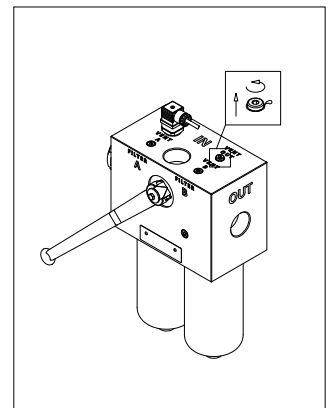

fig. 33
- (Fig. 33) Bleed the air from the system through the "Vent OUT" breather plug loose by a maximum of one turn, until the operating fluid starts oozing